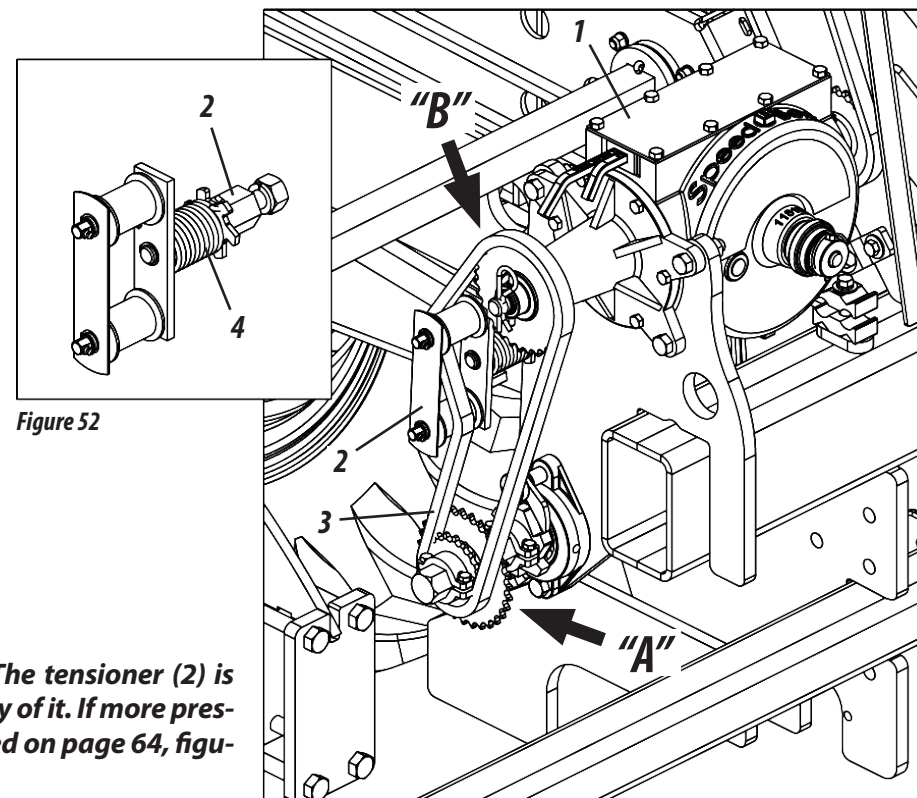

Figure 52
REGULATION FOR FERTILIZER DISTRIBUTION (FIGURE 52)
The seed adjustment is made by the *Speed Box* (1). For more adjustments, reverse the direction of chain of the motor gears. "A" and moved "B", as shown in figures 52. To reverse the direction of the chain on the gears, proceed as follows:
- 1- First, turn the tensioner (2) removing the tension of the chain (3).
- 2- Then reverse the chain (3) as work requires.
- 3- Then, release the tensioner (2) releasing it, returning the tension in the chain (3).